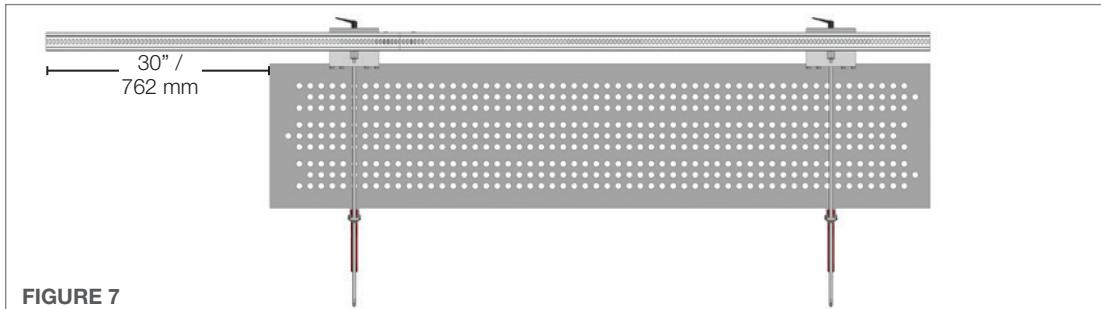

FIGURE 7
7. Position the **Horizontal Rail** so that it extends 30" (762 mm) beyond the tube bundle as shown in (**Figure 7**). This is to allow the Carriage to travel far enough to reach the tubes located farthest to the left. Tighten the Clamps securing the rail to the Mounting Plates. **Horizontal Rail** longer than 150" (3810 mm) will require additional Horizontal Mounting Plate Clamps spaced 75" (1905 mm) apart. Clamps spacing: Maximum spacing between clamps = 72" (1828 mm) Maximum spacing from end of rail = 50" (1270 mm)